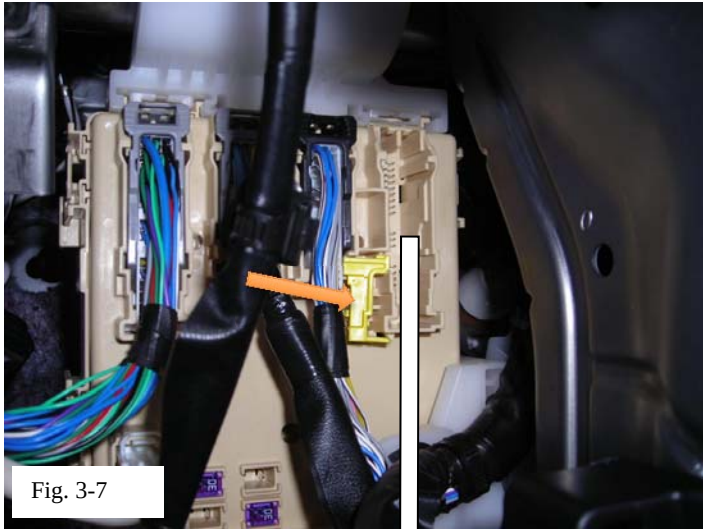

Fig. 3-7
1. Locate right side connector (white) on under dash junction block (below steering column). (Fig. 3-7)